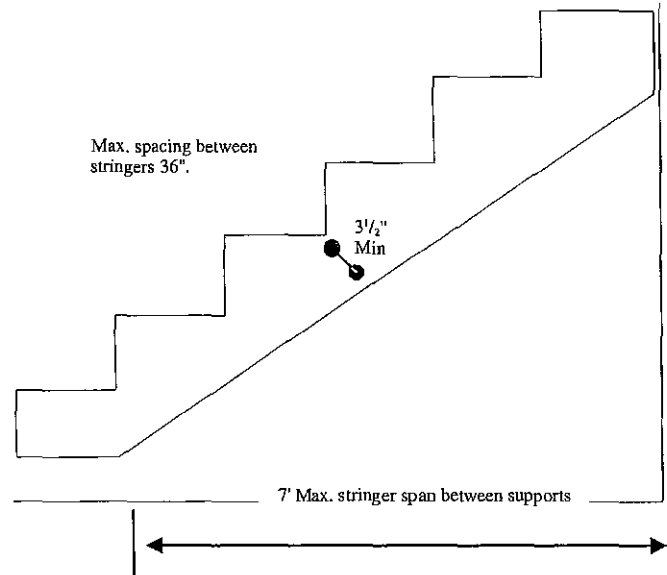

FIGURE AM110
**AM110.1** Stairs shall be constructed per Figure AM110. Stringer spans shall be no greater than 7 foot span between supports. Spacing between stringers shall be based upon decking material used per AM107.1. Each Stringer shall have minimum 3 1/2 inches between step cut and back of stringer. If used, suspended headers shall be attached with 3/8 inch galvanized bolts with nuts and washers to securely support stringers at the top.